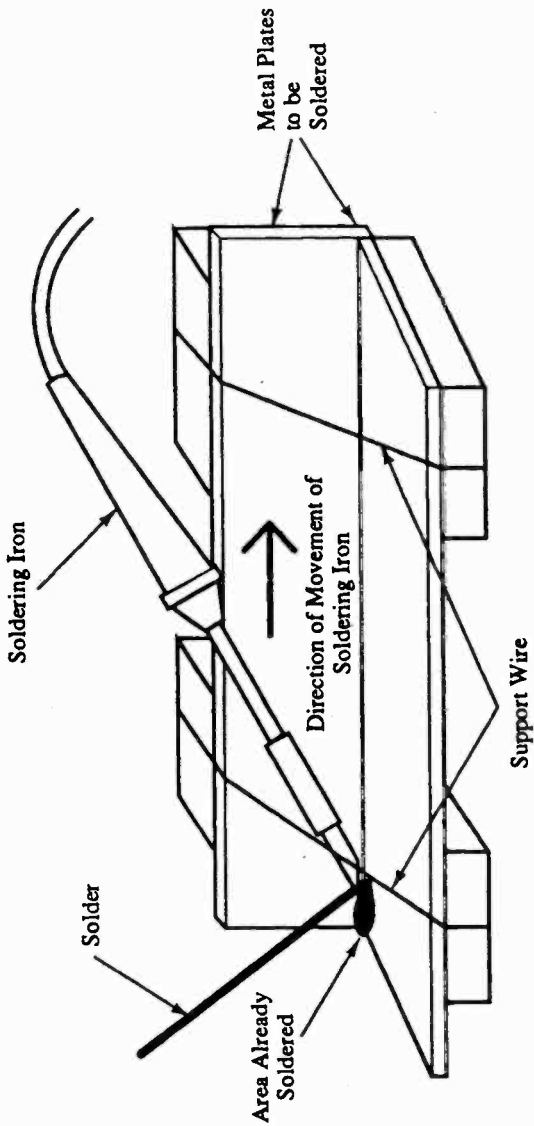

Fig. 10.3 Soldering larger items
- (vi) Apply the solder to the material, not the soldering iron bit (Figure 10.3). You should test the area of material slightly away from the joint (approximately 0.5mm) ensuring that the solder melts at that point. Run the solder into the joint and for long runs (e.g. coach sides or boilers) slowly move the soldering iron away from the area already soldered, running the solder after the soldering iron and applying the solder to the material and not the soldering iron. If you have difficulty with this operation then either the soldering iron or the soldering iron bit are not large enough. This means that you will not successfully complete this operation unless you increase the size of one or other item, regardless of the size of the work to be soldered.